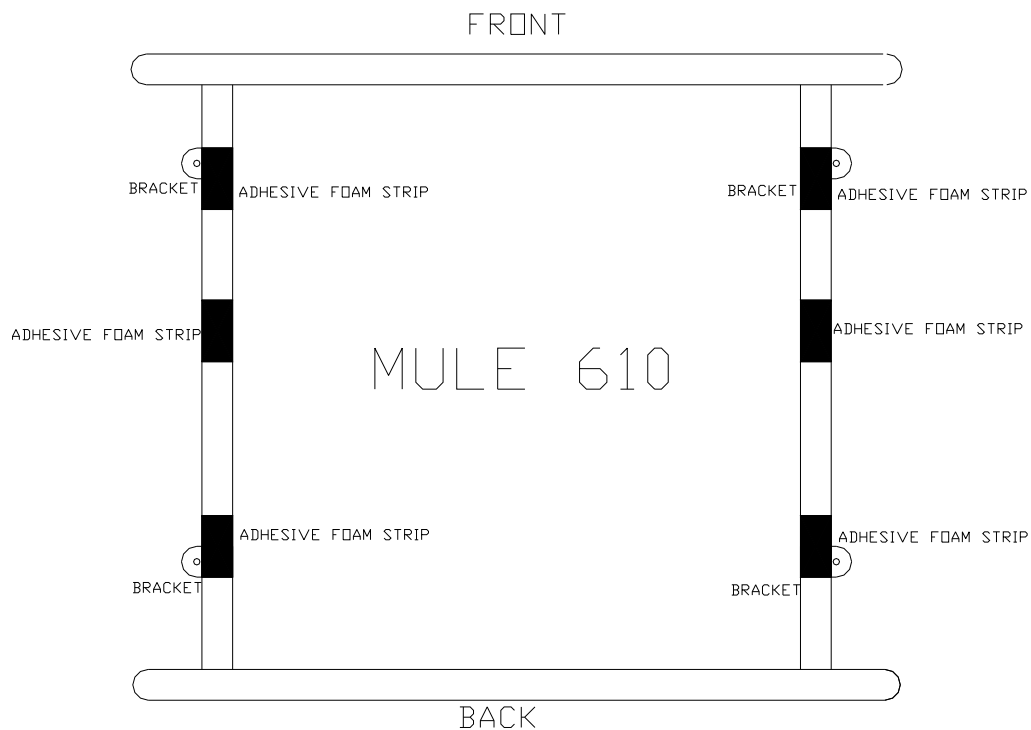

Figure 1
2. Using **Figure 1** below – place UTV Roof Mounting Brackets around roll cage bar and using a marker, mark the position of the holes needed in the roof for each Roof Mounting bracket.
4. Cut (4) 3" strips of adhesive foam and apply to roof in where mounting brackets are positioned to prevent roof rattling once mounted. Foam should run in the direction of the roll cage as shown in Figure 1 above.
6. Prior to attaching the roof mount brackets, cut the remaining adhesive foam in half and apply one section to the roof in the center of the roof where roof and each roll cage bar meet as shown in Figures 1 above. If additional tape is required to prevent rattling it can be purchased from any hardware store as window sealant foam tape.